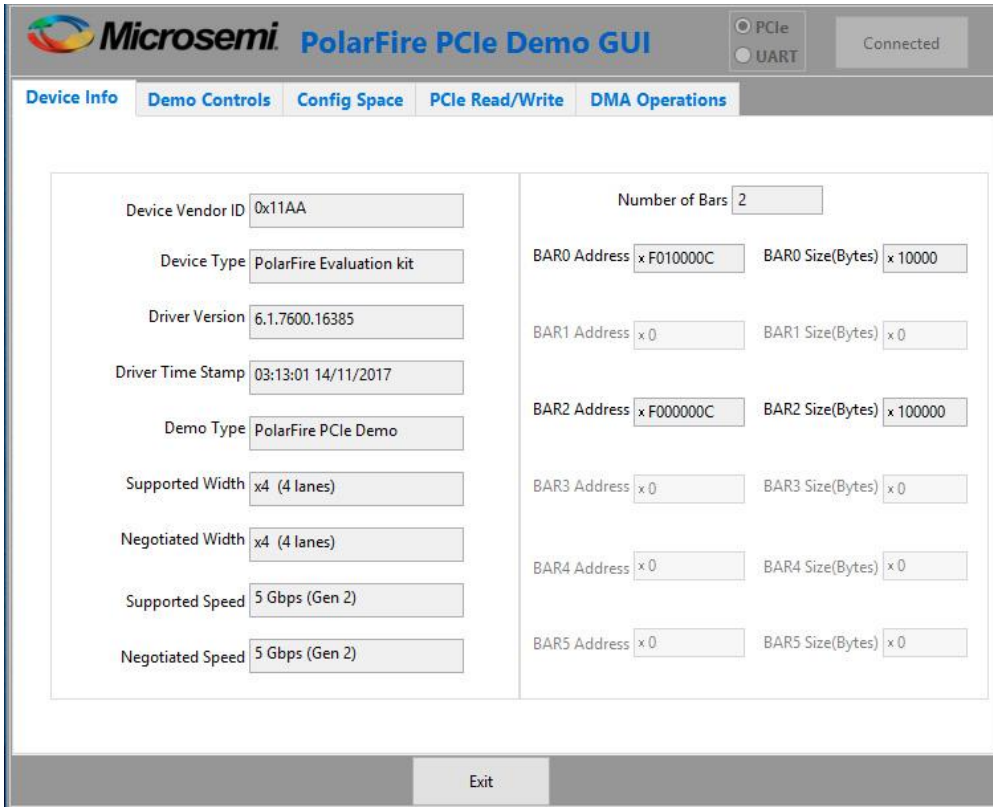

Figure 32: Demo application - Device Info tab
3. Click **Connect**. The application detects and displays the information related to the connected kit such as Device Vendor ID, Device Type, Driver Version, Driver Time Stamp, Demo Type, Supported Link Width, Negotiated Link Width, Supported Speed, Negotiated Speed, Number of Bars, and BAR Address as shown in Figure 32.